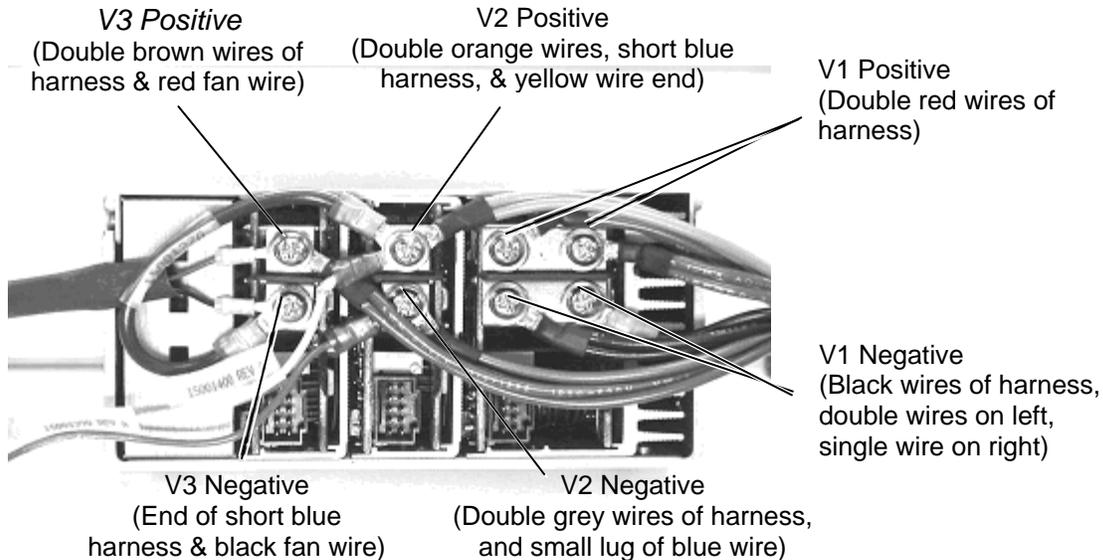

Figure 17-15 DC Output Terminals
- 3 Remove the backplane harness (Part No. 15001250) and PSU harness (Part No. 412001900) from the DC output terminals of the Power Supply Unit (Figure 17-15).